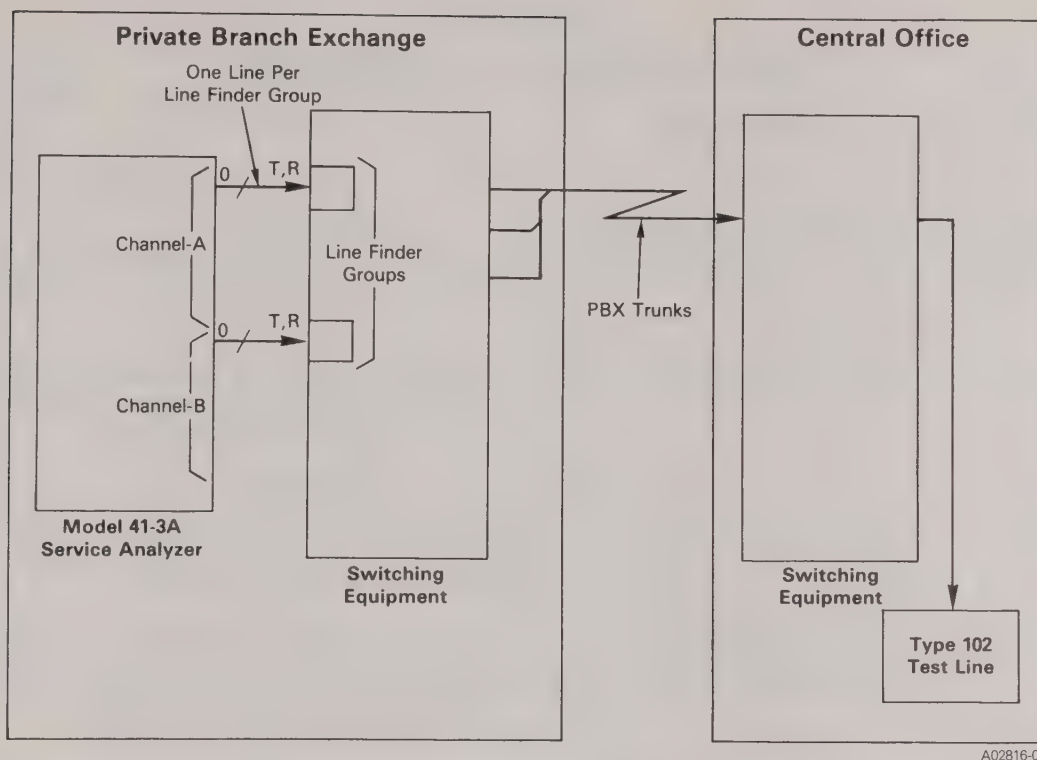

Fig. 17—Routing PBX Trunks
3.82 The Model 41-3A can routine PBX trunks via switching equipment in a private branch exchange. Figure 17 shows the analyzer properly connected to PBX equipment to perform this task. The PBX in this example is assumed to be a SXS-type or similar type requiring dial pulsing.